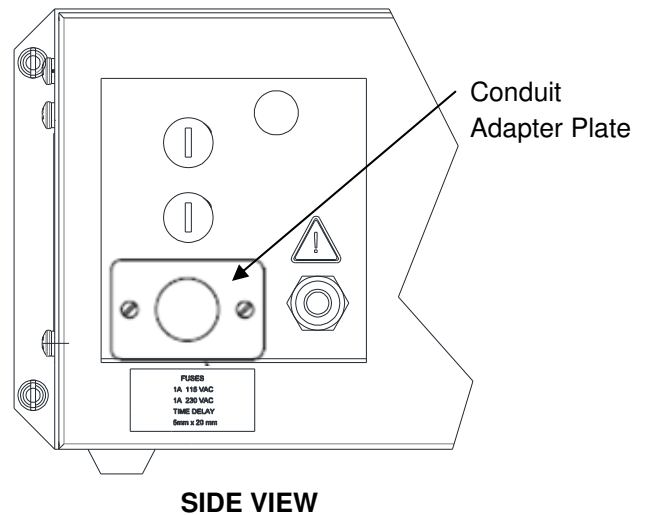

Figure 10: Installation of Conduit Adapter Plate
3. Install the Conduit Adapter Plate (supplied) in the hole where the AC inlet receptacle was removed (see Figure 10).